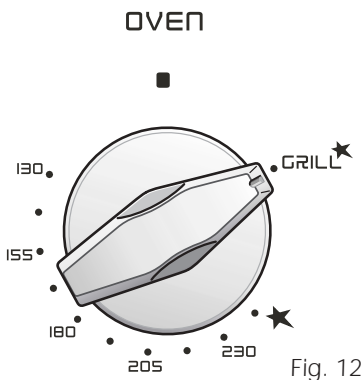

Fig. 12
2) Lightly press and turn the thermostat knob clockwise to the **GRILL**  position (fig. 12).